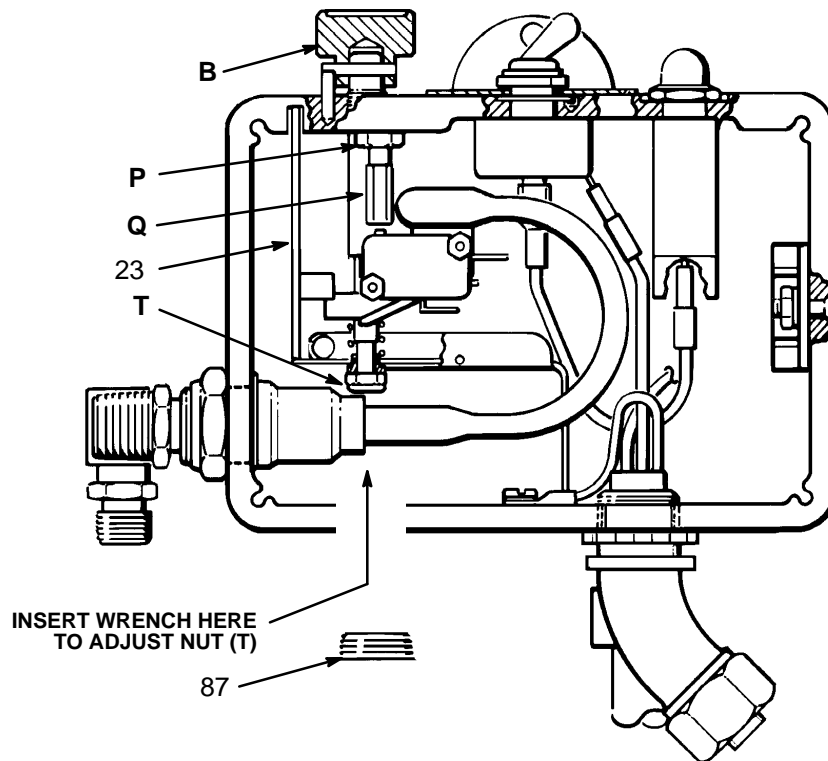

Fig 29-1
**NOTE:** For Steps 5 through 18, refer to Fig 29-1.
7. Turn the pressure control knob (B) to the *minimum* setting (fully counterclockwise), and turn the sprayer **ON**. **THE DISPLACEMENT PUMP SHOULD NOT CYCLE**
**If it does cycle**, remove the plug (87) from the bottom of the pressure control. Insert a 3/8 in. nut driver through the opening, and unscrew the pressure adjustment nut (T) just until the sprayer stops running.